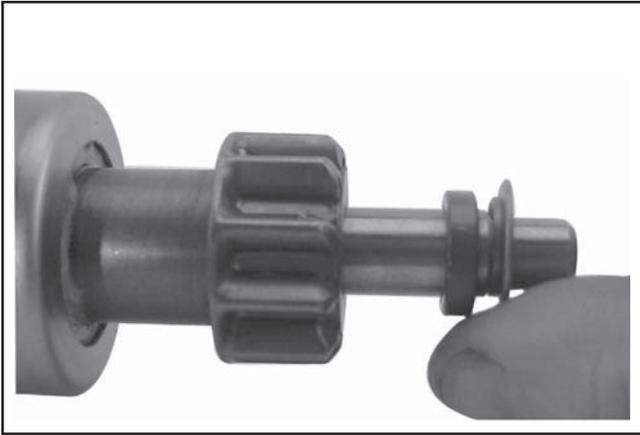

Figure 8-33. Installing Thrust Washer.
3. Install the offset thrust (stop) washer so the smaller “offset” of the washer faces the retainer/collar. See Figure 8-33.